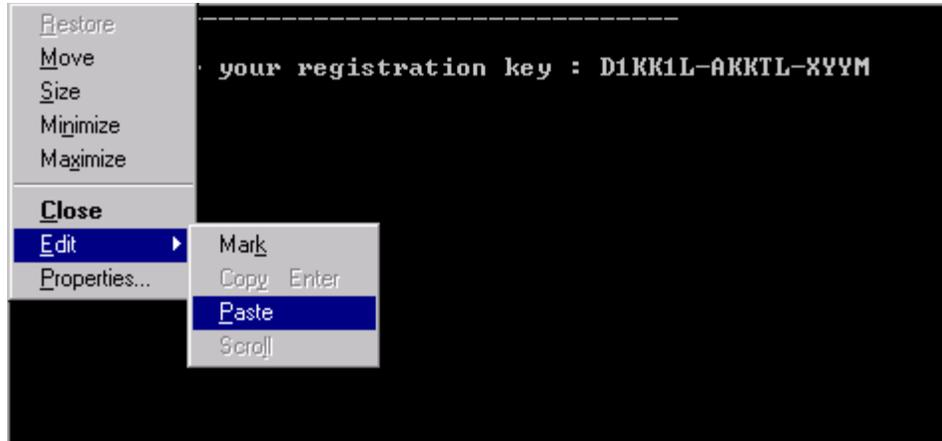

Figure 20: Paste the Registration Key into the DOS Window
1. Copy and paste the registration key from a text file or the Customer Service e-mail. Right-click on the left corner of the DOS window, and select *Edit / Paste*, see *Figure 20* on *Page 62*. The registration key can also be entered manually.